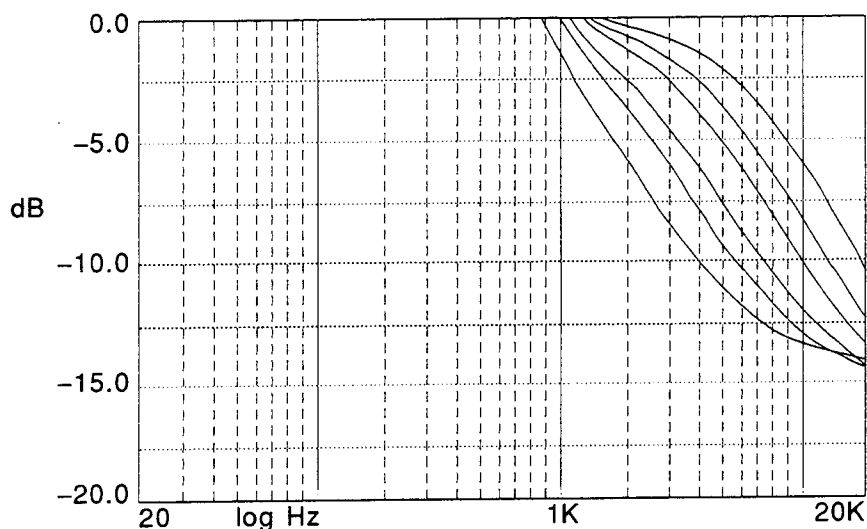

Figure 4-1: Limiting Curves
- N ☐ Verify that the limiting action is as shown in Figure 4-1 for each position of the HF LIMITER switch.